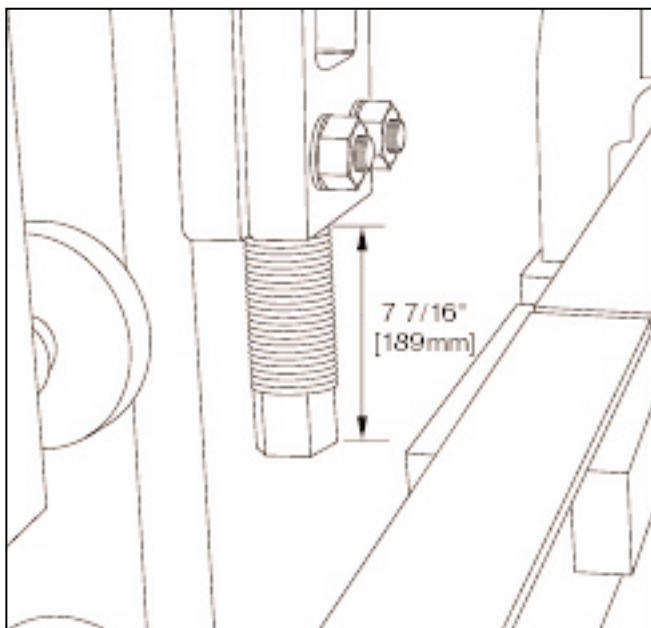

Figure 4.48 ADJUSTING UPPER HEIGHT STOPS
- 4.4.3 Install the **12 1/2" [318mm]** long upper height stops (**part # 047356**) and adjust so that **7 7/16" [189mm]** extend past the bottom of the castings (see figure 4.48).